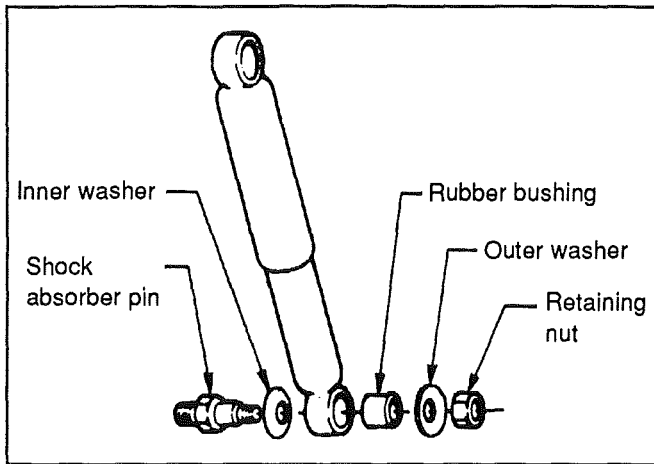

FIG. 17
1. Remove nuts and washers from shock absorbers on upper and lower mounting pins, taking care to identify the inner and outer washers to ease reinstallation. Refer to figure 17 for details.